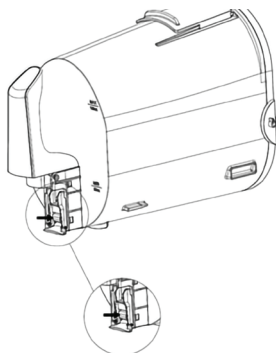

Figure 6
2. Press and hold the spout bracket buckle position (see Figure 6).